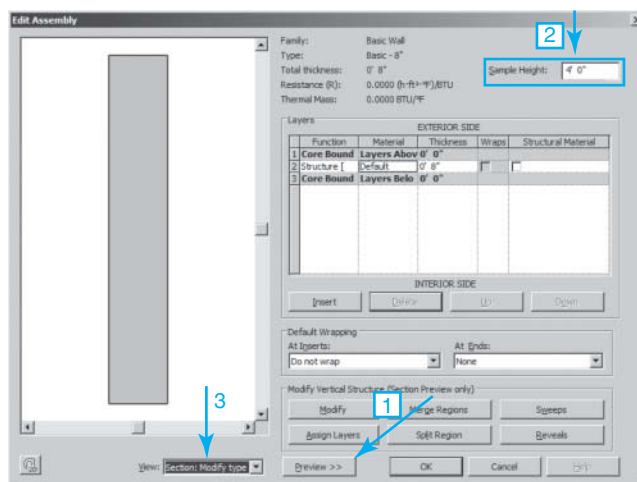

Figure 3-28
8. In the **Edit Assembly** dialog box, select the **Preview** button; then set the **Sample Height** to **4'-0"**, and finally select **Section: Modify Type** from the **View** drop-down list. Click in the viewer, and zoom in and fill the view (see Figure 3-28).